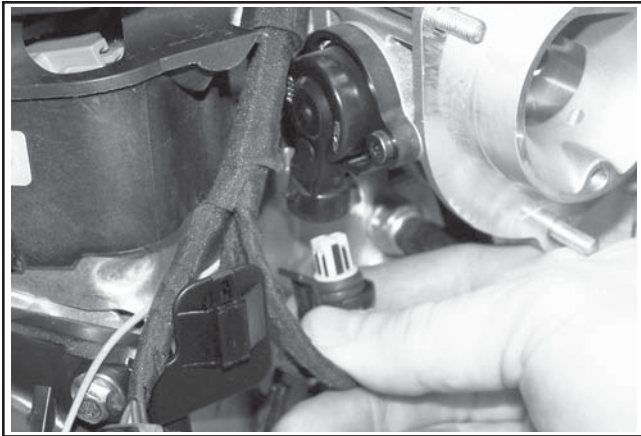

Figure 10-73. Connect the Throttle Position Sensor.
7. Push electrical connector onto the throttle position sensor making sure a good connection is made. See Figure 10-73.